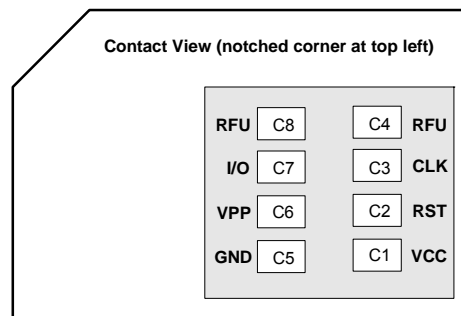

Figure 4-4: SIM card contacts (contact view)
1. See Figure 4-4 on page 33 for SIM card contacts.